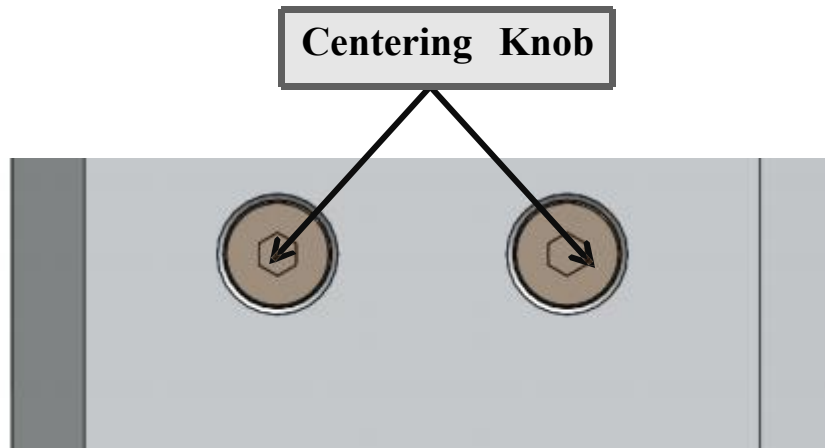

Figure 3.6
- ① To achieve good joint-cutting effect, the laser beam must be kept in the center of the nozzle. When it deviates from the center of the nozzle, it needs to be adjusted through the beam centering module, as shown in Figure 3.6 below.